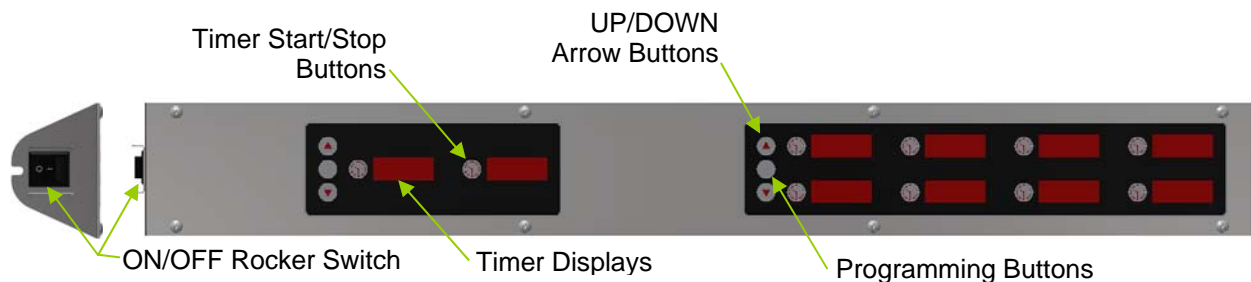

FIGURE 2A - Interface
4. Push the timer rocker switch to the ON position "I" (figure 2A). The timer displays will briefly show the firmware version number before going to idle mode "---".